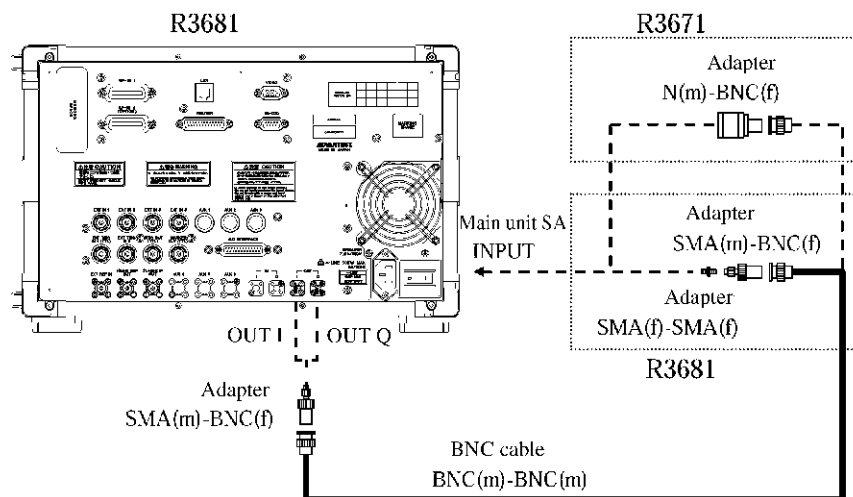

Figure 8-7 SFDR Measurement Connection Diagram
2. Connect the instruments as shown in Figure 8-7.